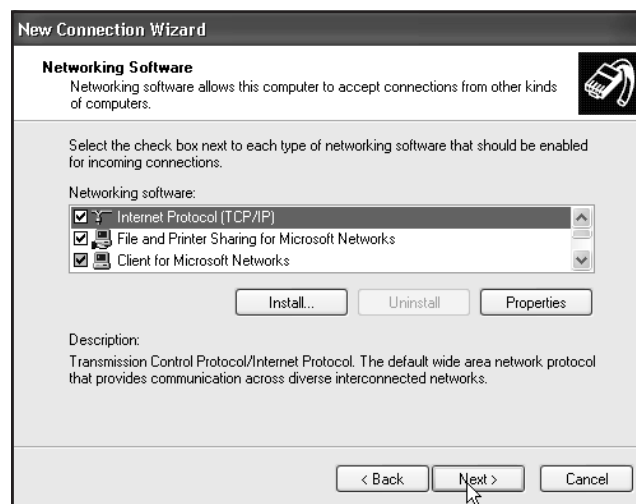

Figure 192 Selecting the Network Software
9. Add the network protocols to the network. TCP/IP must be added at this time if not already in the protocol list. See Figure 192. Click on **Next**.